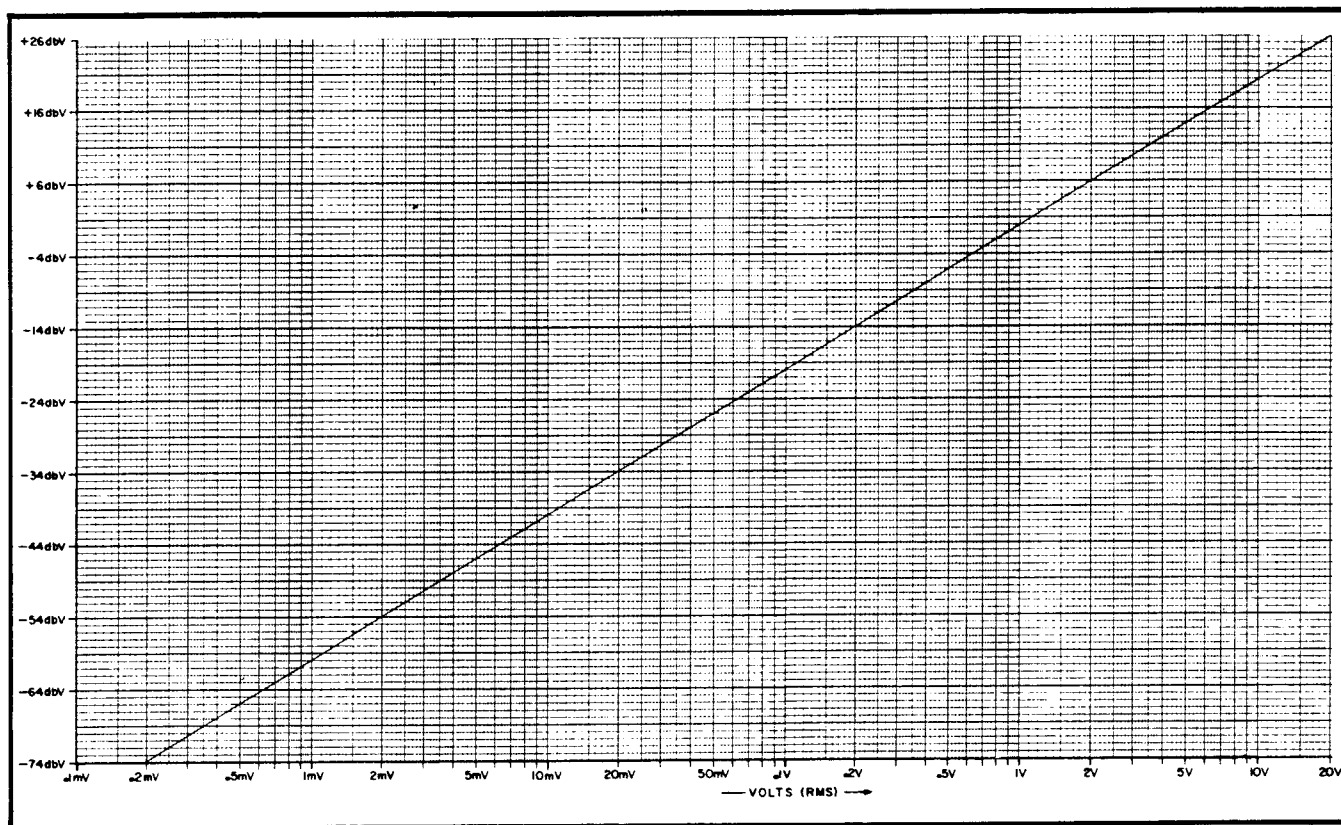

Figure 3-6. dBV to Volts Conversion.
**3-44. Log A and Log B Measurements.** The single channel amplitude functions A or B, permit direct measurement of either input level in dBV. These readings can be converted to ac volts using the graph shown in Figure 3-6. To measure the level applied to either input channel, proceed as follows:
- g. If desired, convert the dBV reading to rms volts using the graph shown in Figure 3-6.